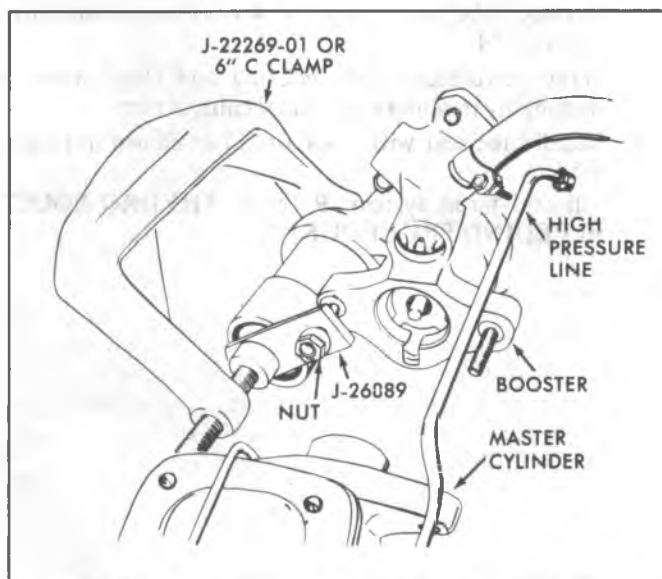

Fig. 5-51--Compressing Accumulator With J-26889
4. Place the accumulator retaining cap Tool J-26889 over the master cylinder stud and install the nut as shown in Figure 5-51.
5. Using Tool J-22269-01 or a large "C" clamp (6" (150 mm) minimum), depress the accumulator. Insert a punch into the hole in the housing and remove retaining ring with a small screwdriver, (fig. 5-51). If the accumulator is not easily compressed approximately 1/8" (3 mm) it is still charged. This indicates an internal problem with the accumulator valves and the booster must be disassembled.
2. Using Tool J-22269-01 or a large "C" clamp (6" (150 mm) minimum) depress the accumulator making certain that the accumulator is compressed straight (fig. 5-51).